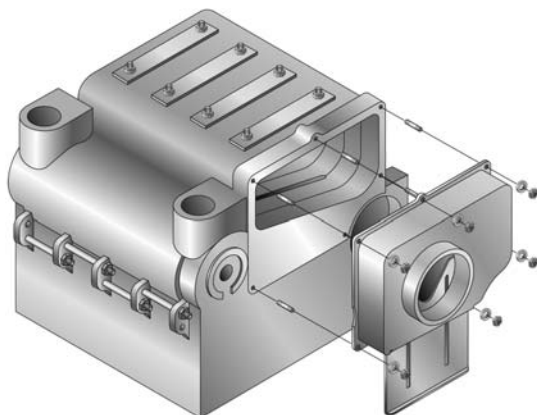

Figure 2.12: Rear Flue Collar Attachment
1. (LC) Remove the Flue Collar and Rear Observation Door Assembly from the LC Rear Flue Box Carton. (LCE) Remove the Top Flue Outlet Plate, the Rear Flue Cover Plate and the Rear Observation Door Assembly from the LCE Top Flue Outlet Carton.
2. (LC) Attach the Flue Collar to the Back Section with 5/16" x 1-1/2" studs, flat washers and hex nuts supplied. See Figure 2.12. (LCE) Attach the Rear Flue Cover Plate to the Rear Section with 5/16" x 1-1/2" studs, flat washers and nuts supplied.